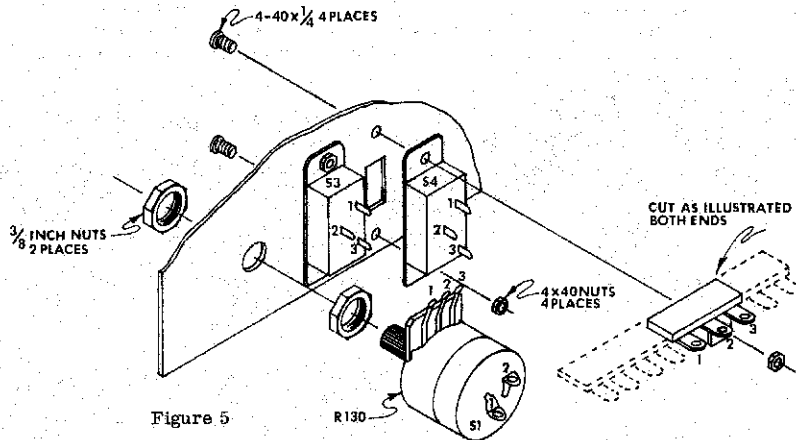

Figure 5
- () Locate the 9-lug terminal strip supplied and cut as shown in figure 5.
- () Using two 4-40 X 1/4-inch machine screws, and two 4-40 machine screw nuts mount the terminal strip along with slide switch S4. Refer to figure 5.
- () Mount the potentiometer, R130, using the two 3/8-inch nuts provided; one behind the circuit board as a spacer, and the second on the front side to secure the potentiometer. Adjust the rear nut so that none of the threaded shaft is exposed when the front nut is tightened down. This will allow the control knob, which will be mounted in a later step, to seat as closely as possible to the circuit board. Orient as illustrated in figure 5.